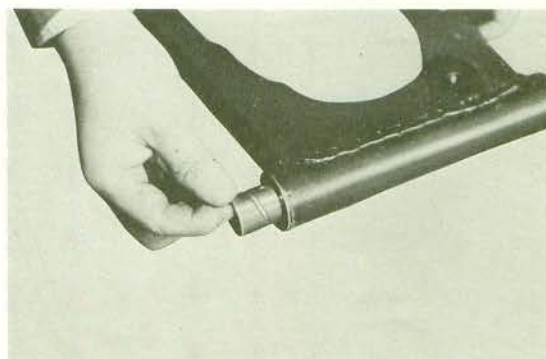

Fig. 4-11-5
- 2) Insert the bushing as indicated in Fig. 4-11-5, and check it for play. If the play is excessive, replace the bushing.